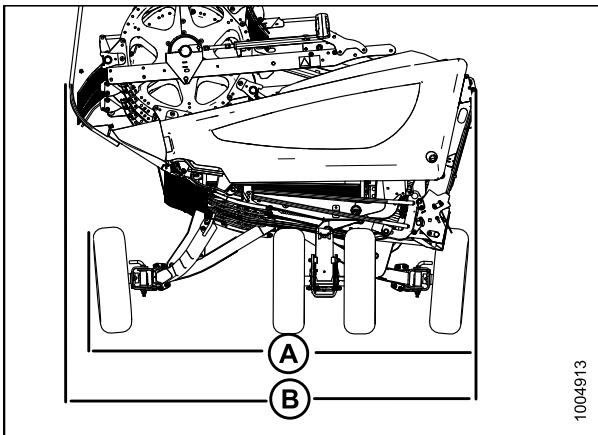

Figure 3.1: Header Width
(B) Long Dividers Removed (refer to figure 3.1: Header Width, page 28)	98 in. (2500 mm)